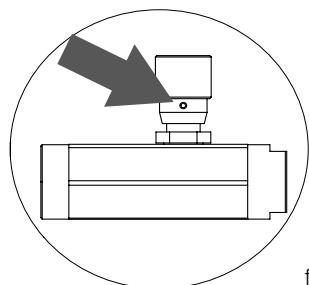

figure 14
- Remove the filler cap as indicated in "figure 14"